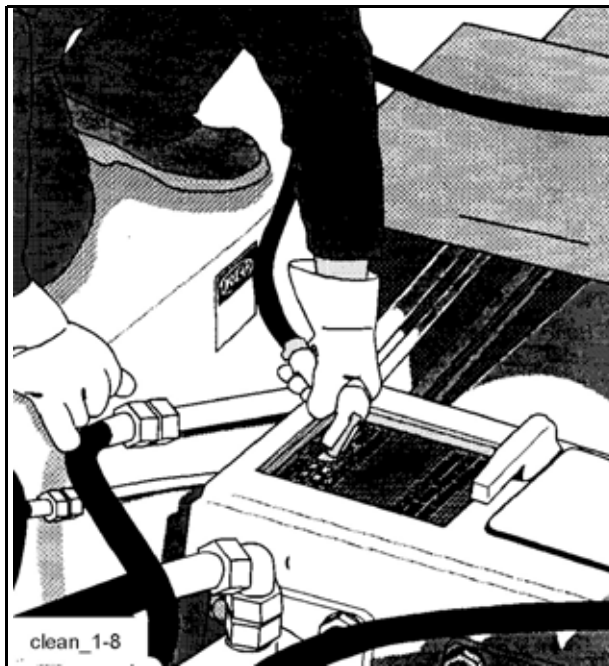

Fig. 240 Hose out water box
- Hose out the water box with pressure water (**Fig. 240**). Do not remove the grid from the water box!